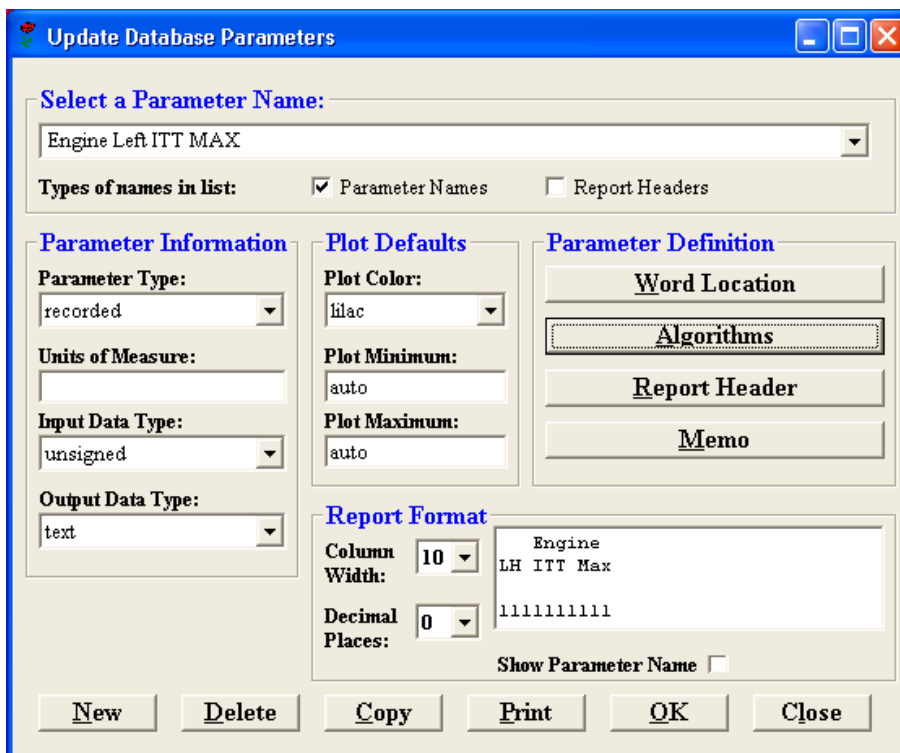

Fig. 7
2. Overwrite *Engine Left IELU Intervention* to *Engine Left ITT MAX*. Perform the update according to the *Water Injection* parameter modification, points 2 to 7. Particular items update according to the Fig. 7 to 11.